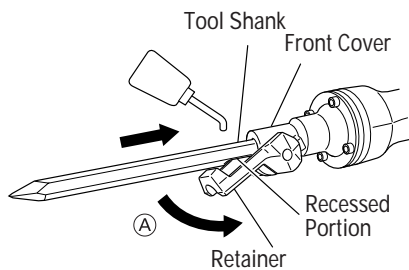

Fig. 6
- (1) Clean, then smear the accessory shank portion with grease or machine oil.
- (2) Move the retainer to position (A). Align the accessory shank portion so that its recessed portion is under clamp and seat the accessory such as a bull point, a cutter, etc., in the hexagonal hole in the front cover (See Fig. 6).